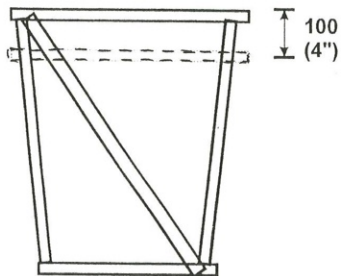

FIG 5. Template 'A' modified for base concrete level (NOTE AND ADJUST FOR SLOPE OF MOTORPIT FLOOR (MODELS SA 201 / SA 301 / SA 372))
Modify template/pattern (A) (fig.5) by attaching additional lower top rail to reduce measuring depth. Mix wet mix concrete and spread over floor of hole to depth of approx., 100mm (4") using modified template (A).